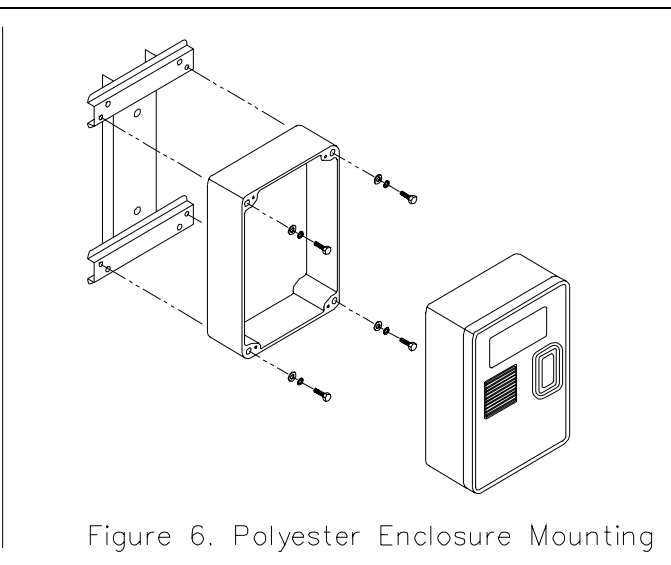

Figure 6. Polyester Enclosure Mounting
3. Mount the rear enclosure to the bracket using the Phillips head ¼-20 × 1-inch machine screws and lock washers. See Figure 6.